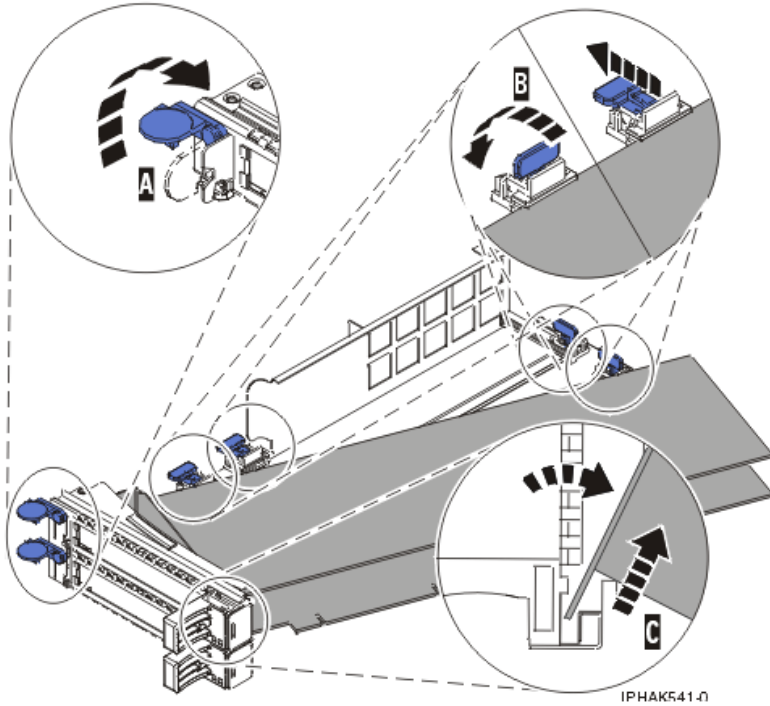
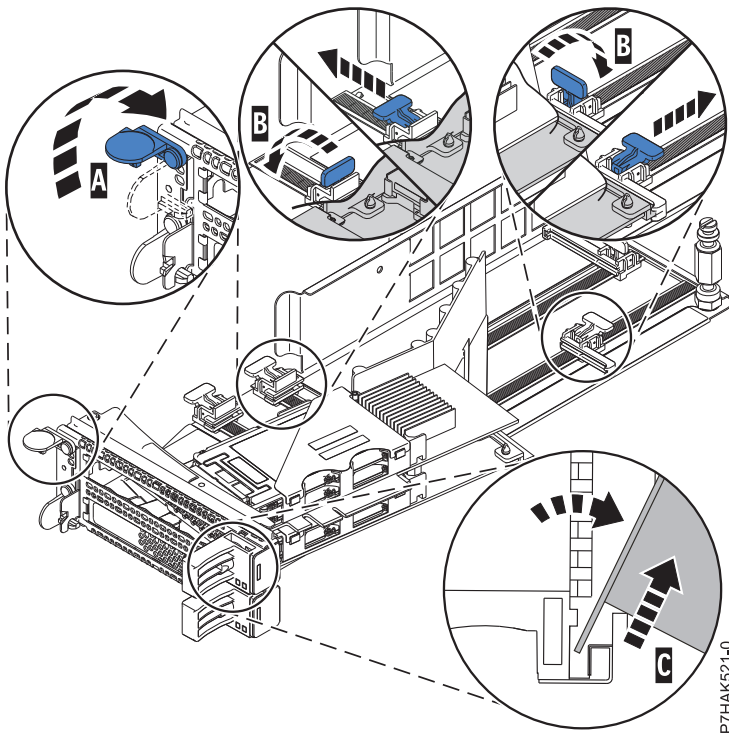

Figure 47. Adapter removed from the PCI adapter cassette
Figure 48. PCIe RAID and SSD SAS adapter removed from the PCI adapter cassette
Note: If you are removing a PCIe RAID and SSD SAS adapter, see Figure 48 on page 57.
- a. Unlock the adapter retainers (B) by rotating the retainer clips (A) into the horizontal position. See Figure 47 on page 57. If you are removing a PCIe RAID and SSD SAS adapter, see Figure 48 on page 57.